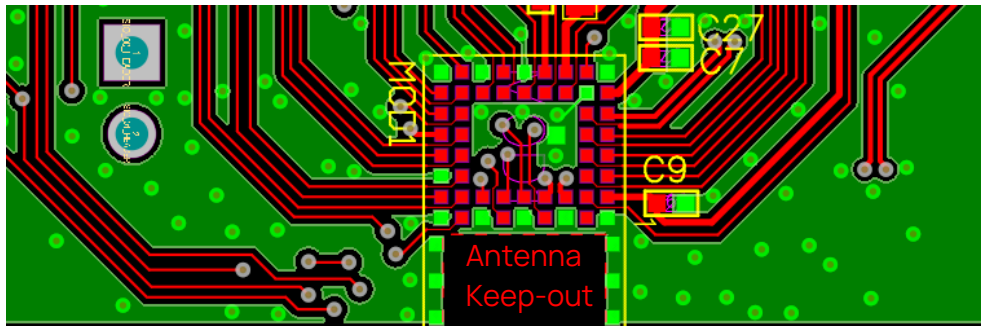

Figure 12: Chip Antenna keep-out area (shown in red), corner of the BL653 μ development board for the 453-00059 module.
- The BL653 μ development board has the 453-00059 module on the edge of the board (not in the corner). The antenna keep-out area is defined by the Ezurio internal BL653 μ development board which was used for module development and antenna performance evaluation is shown in Figure 12, where the antenna keep-out area is ~5 mm wide, 3 mm long; with PCB dielectric (no copper) height ~1 mm sitting under the 453-00059 chip antenna.
- Host PCB land pattern and antenna keep-out for the BL653 μ applies when the 453-00059 is placed in the edge of the host PCB preferably in the edge center. Figure 12 shows an example.